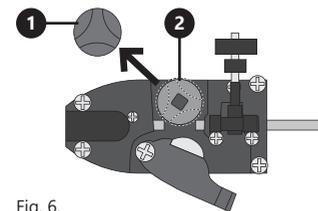

Fig. 6.
- If the thickness of the wire was changed you must also change the groove of the guide roller. The guide roller has grooves with a thickness of 0.9 and 0.8 mm. (see Fig. 6) In order to change the thickness of the groove:
- » Turn the guide roller knob (1) and remove it.
- » Remove the guide roller (2).
- » Select the appropriate thickness of the groove and set the roller (2) so that the selected groove is closer to the centre of the machine.
- » Fit the guide roller (2) on the pin.
- » Install the guide roller knob (1) and turn to secure the connection.